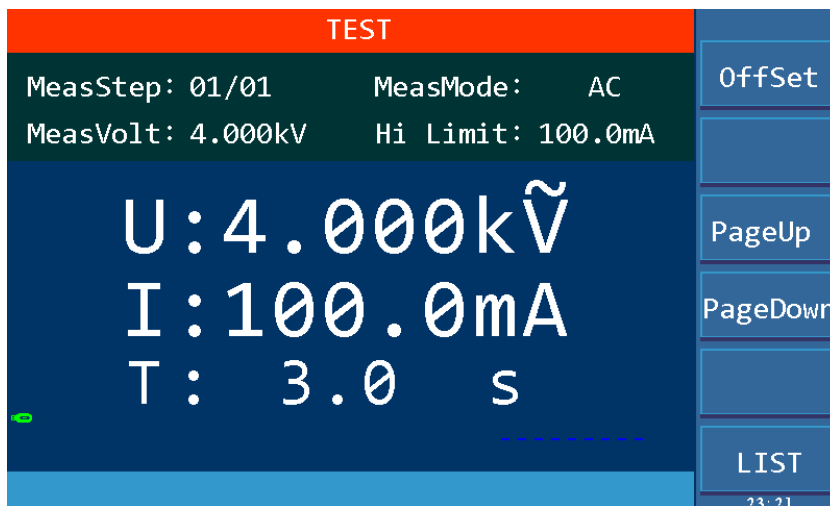
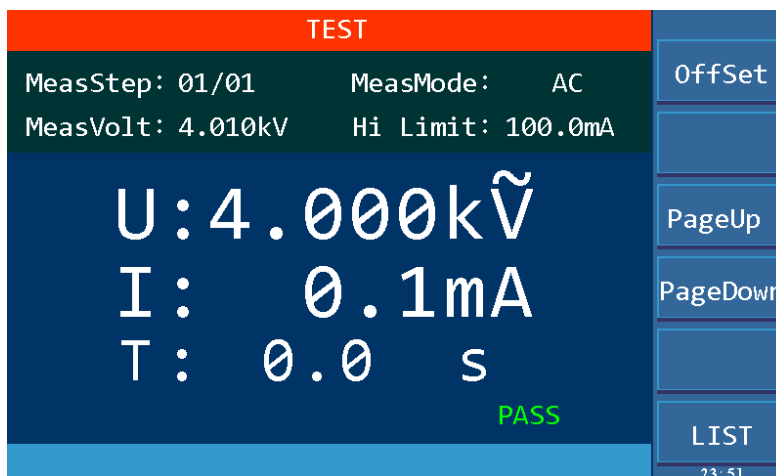
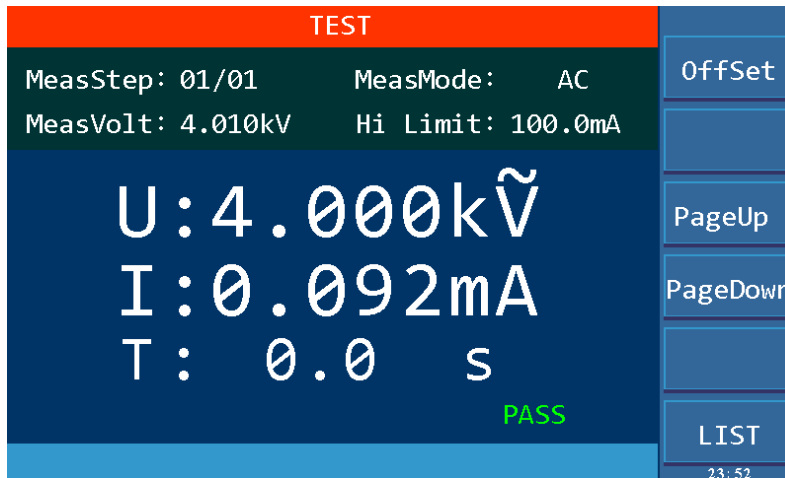

Figure4-4.1
Figure4-4.2
Figure4-4.3
When the auto range, that is, the withstand voltage auto range function is set to ON, at 0.6S before the completion of the test, if the measured current can be expressed by the low current range, the current range is automatically changed to the low current range. Examples are shown in Figure 4-4.1 and Figure 4-4.2 and Figure 4-4.3.
1. If the current range in TEST is set as high current range, 100mA in Figure 4-4.1.
2. But the actual current is comparatively small, 0.4mA as shown in Figure 4-4.2.
- At 0.6S before the completion of the test, the current range is switched to the appropriate low range, which is 0.092mA in Figure 4-4.3.